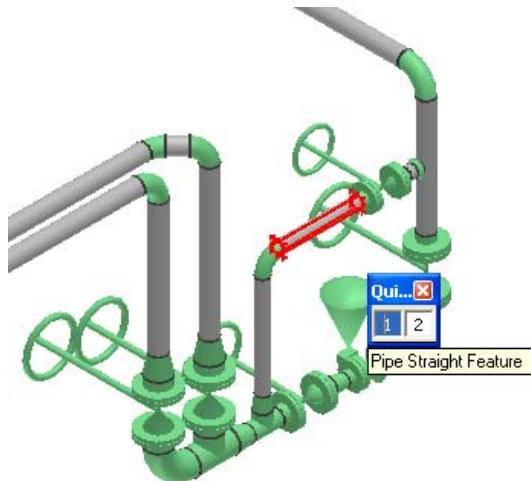

Figure 3: Pipe Straight Feature
47. Select the **Pipe Straight Feature**, as shown in Figure 3, to specify the piping feature that you will move with respect to 400-P.